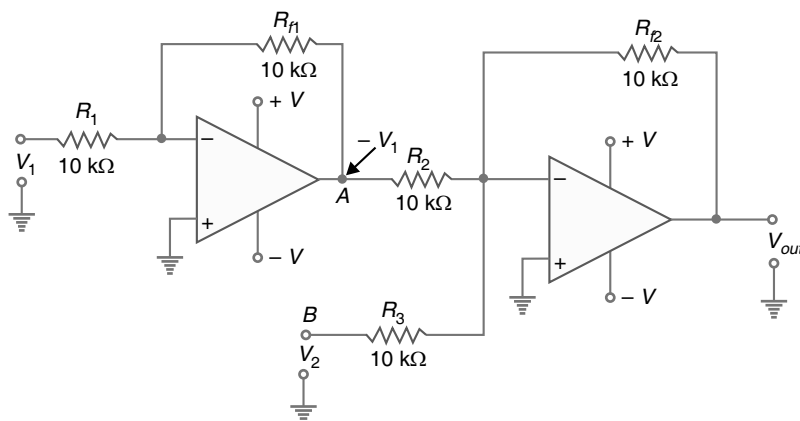

Fig. 23.78
2. **As subtractor.** A summing amplifier can be used to provide an output voltage that is equal to the difference of two voltages. Such a circuit is called a **subtractor** and is shown in Fig. 23.78. As we shall see, this circuit will provide an output voltage that is equal to the difference between  $V_1$  and  $V_2$ .